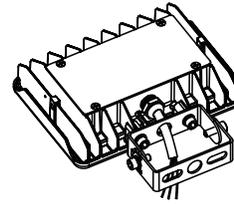

Figure 2.3
3. Attach the other bracket with screws (figure 2.3)